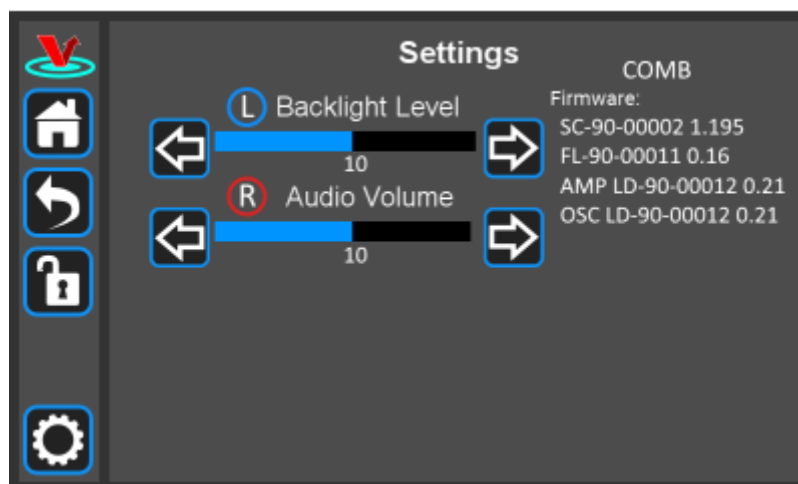

Fig. 21: FFC-100 Setting Screen
The FFC-100's Settings Screen (figure 21) can be accessed by touching the gear icon in the control bar, and gives access to the FFC-100's current firmware version, as well as options for changing its screen brightness and its volume. To change the screen brightness, either turn the Left (L) rotary knob, or touch the arrows on either side of the brightness bar. To change the volume either turn the Right (R) rotary knob, or touch the arrows on either side of the volume bar. The version of the Firmware currently installed on the FFC-100 is displayed in the top right hand side of the Settings Screen.